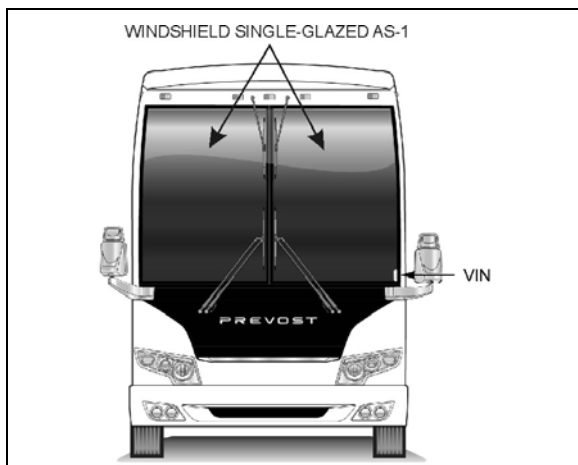

FIGURE 46: WINDSHIELD
6. Confirm that both latches are in the closed (latched) position. The upper edge of the latch opening must be aligned with upper edge of the sash opening (Figure 46)
Unless otherwise noted, body panels and doors should be aligned and centered with surrounding panels. In general, a gap of ¼ inch (6 mm) is desirable between panels. Refer to figure 46 for specified gaps.